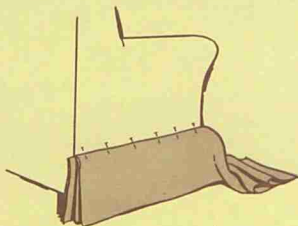

Figure 24
**For Tailored Box Pleats at the Corners.**—Begin fitting the flounce at the back corner where the placket is to be made. Leaving 3 or 4 inches to extend toward the back side, make a half pleat. Work toward the front of the chair (figure 24).